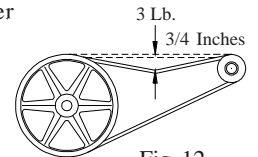

Fig. 12
- **Check belt tension.** A 3 lb. force should deflect the belt 3/4 inches (see Fig. 12). Readjust belt if needed.